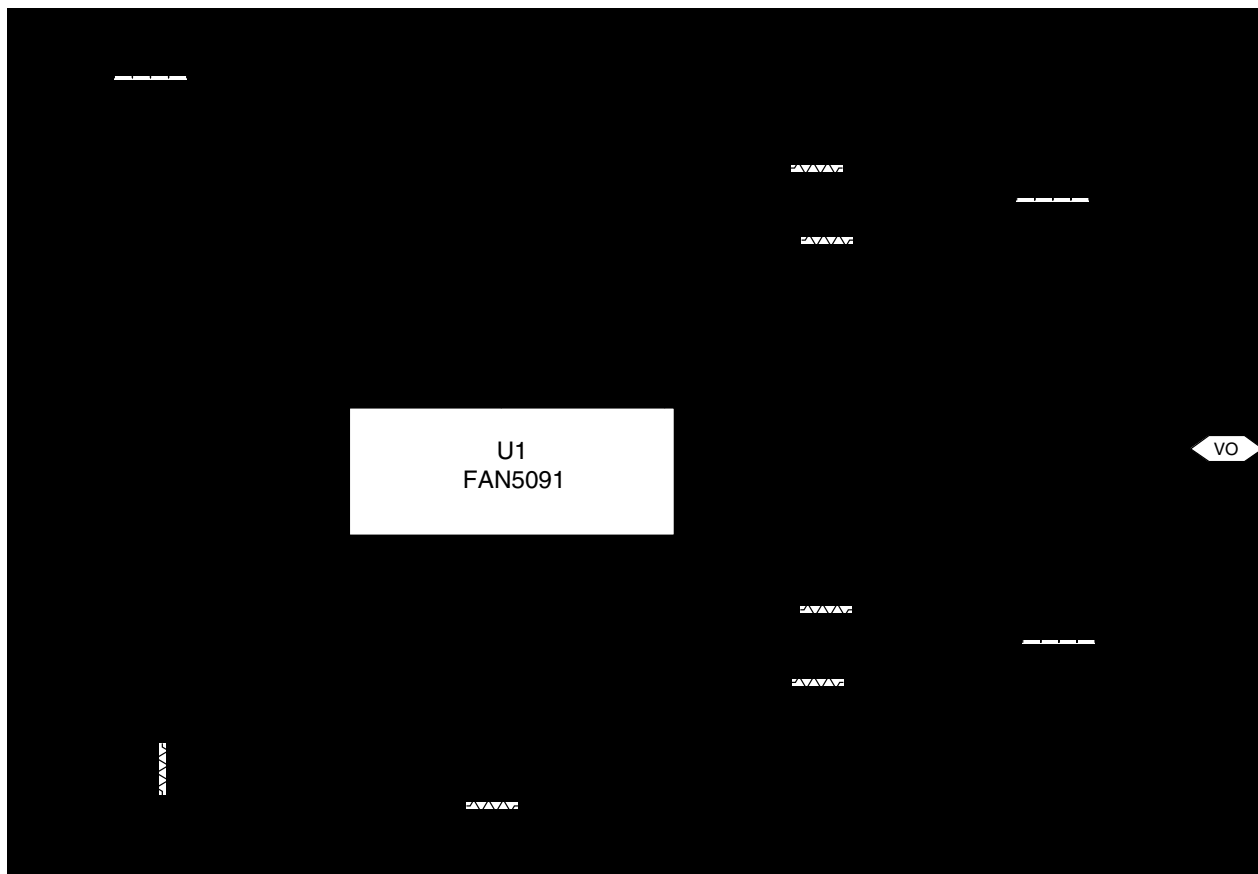

Figure 3. Application Circuit for 35A High-Frequency Application (1MHz each slice)
**Table 4. FAN5091 Application Bill of Materials for Figure 3**